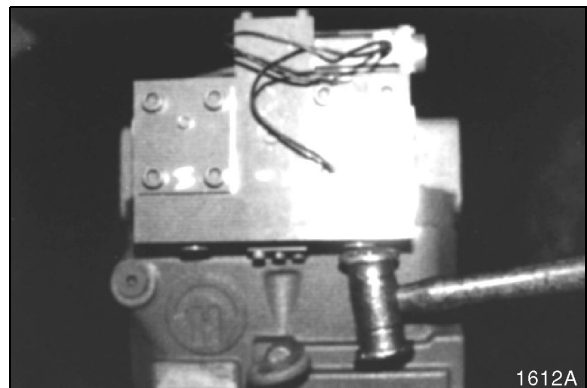

Figure 19
5. Tap regulator cover with soft mallet to separate from control section. See Figure 19.